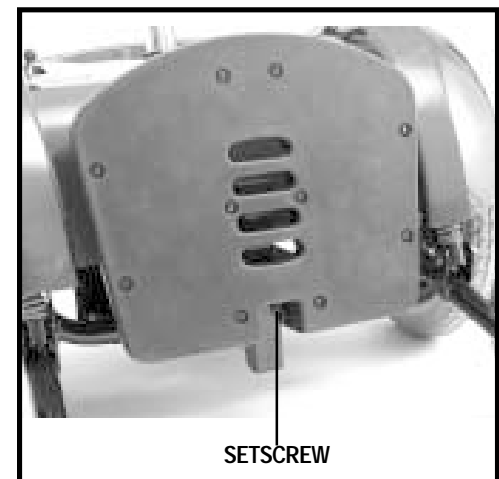

Figure 19. Foot Platform Angle Adjustment
1. Flip up the foot platform. See figure 19.